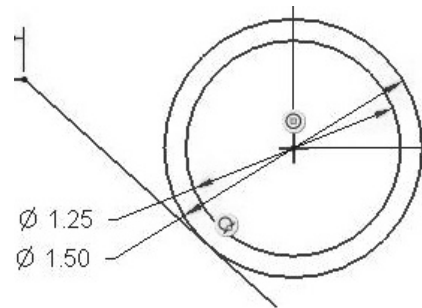

Figure 3-54 Slanted Surface Touches Outer Circle
Step 11: Use the **Line** tool to draw the slanted surface of the jig. Start at the base of the tab, move upward a couple of inches, then horizontally toward the two circles. Do not draw horizontally through the center of the circles. Stop before reaching the circles. Draw a slanted line that touches the outer circle tangent (Figure 3-54), then draw a vertical line back down to the base.